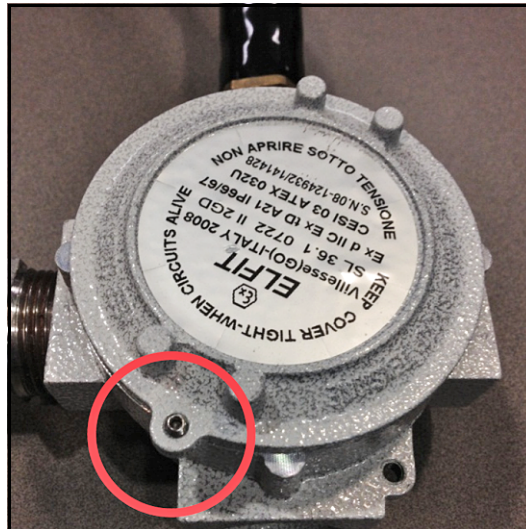

Figure 15: Set Screw of Junction Box
9. Place the cover of the junction box over top of the **XAMP** and tighten the cover until the unit is closed and secure. Engage the set screw to discourage tampering or removal (see *Figure 15* below).